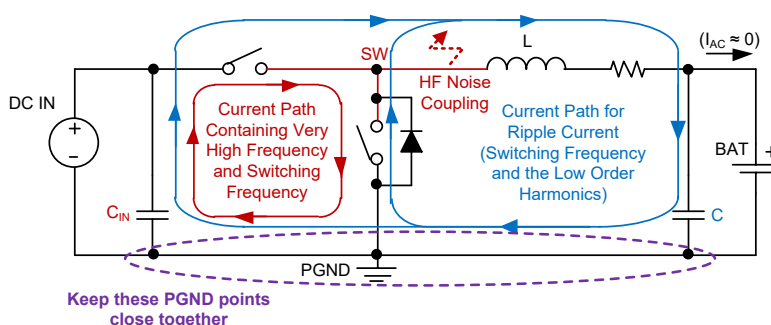

Figure 15. Graphical Representation of the Switching and Transient Current Loops, and Capacitive Noise Coupling from SW Node
1. The switching node (SW) creates very high frequency noises several times higher than f_s (1.6MHz) due to sharp rise and fall times of the voltage and current in the switches. To reduce the ringing issues and noise generation, it is important to minimize impedance and loop area of the AC current paths. A graphical guideline for the current loops and their frequency content is provided in Figure 15.